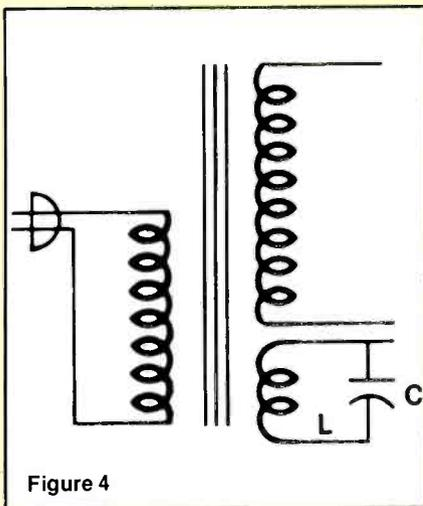

Figure 4
Ferroresonant transformers also work on the principle of saturation. An example of this device is shown in Figure 4. In other versions, the resonating capacitor is connected across parts of the secondary winding. In this case, a separate winding (L) and capacitor (C) are used to oscillate at the line frequency.
**Figure 4.** In a ferroresonant transformer, the additional flux provided by the resonance of the L/C circuit makes it less likely for the transformer to go out of regulation when the input voltage is low.